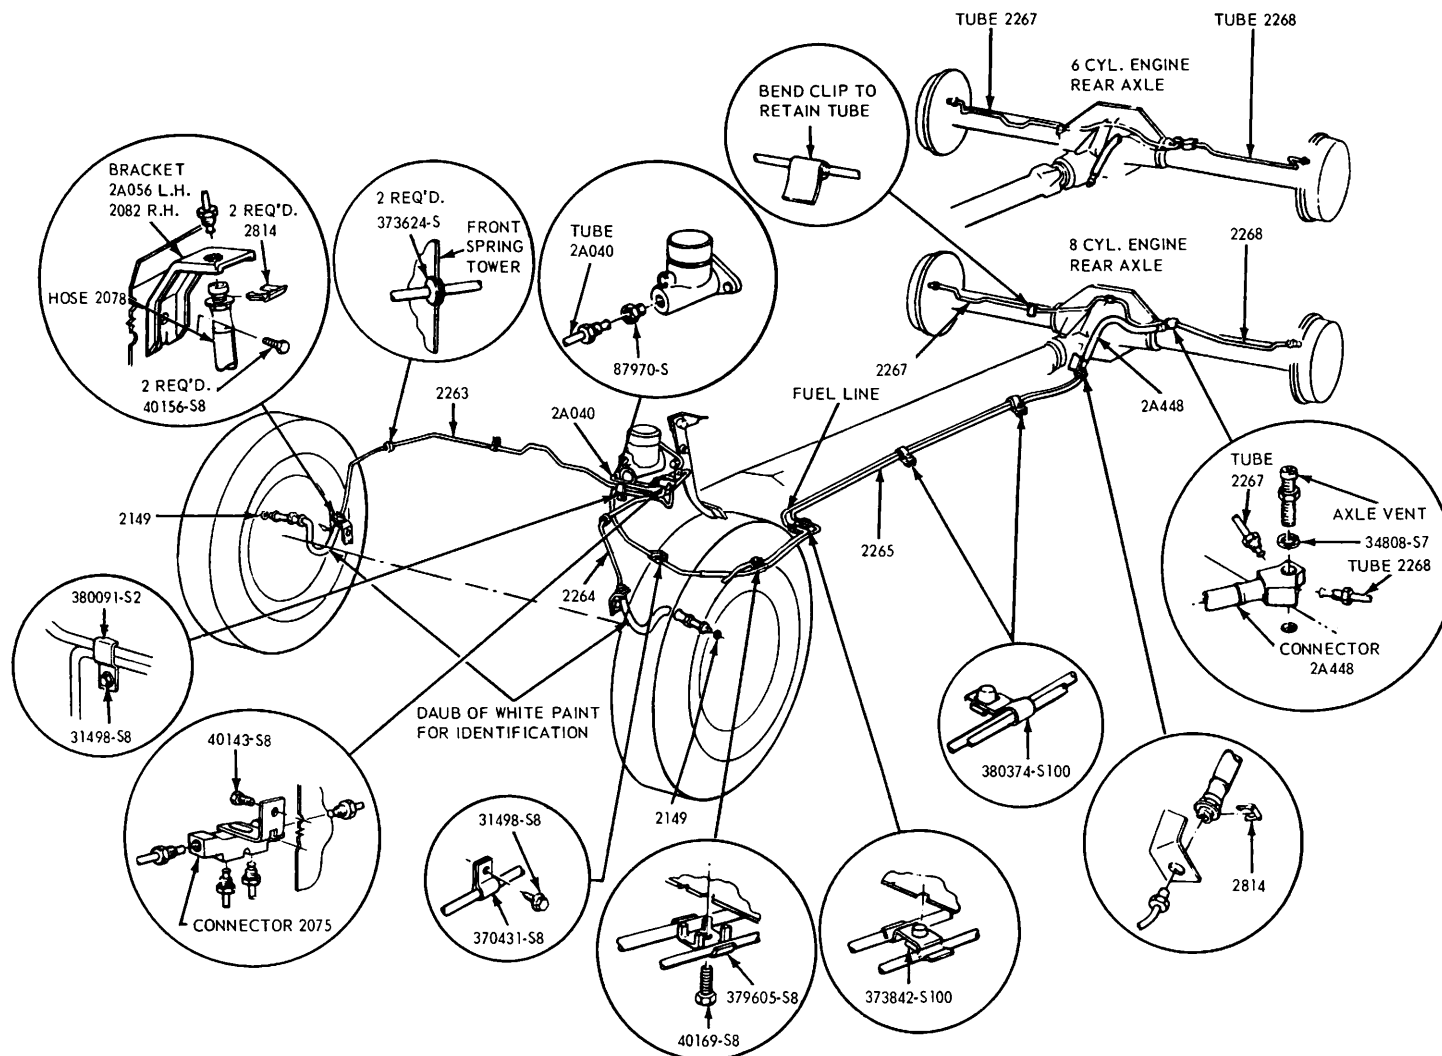

FIG. 24—Hydraulic Brake System—Mustang
2. Disconnect the front brake flexible hose from the brake tube at the bracket on the frame (Fig. 24).
3. Connect the front wheel brake flexible hose to the brake tube at the bracket on the frame (Fig. 24). The